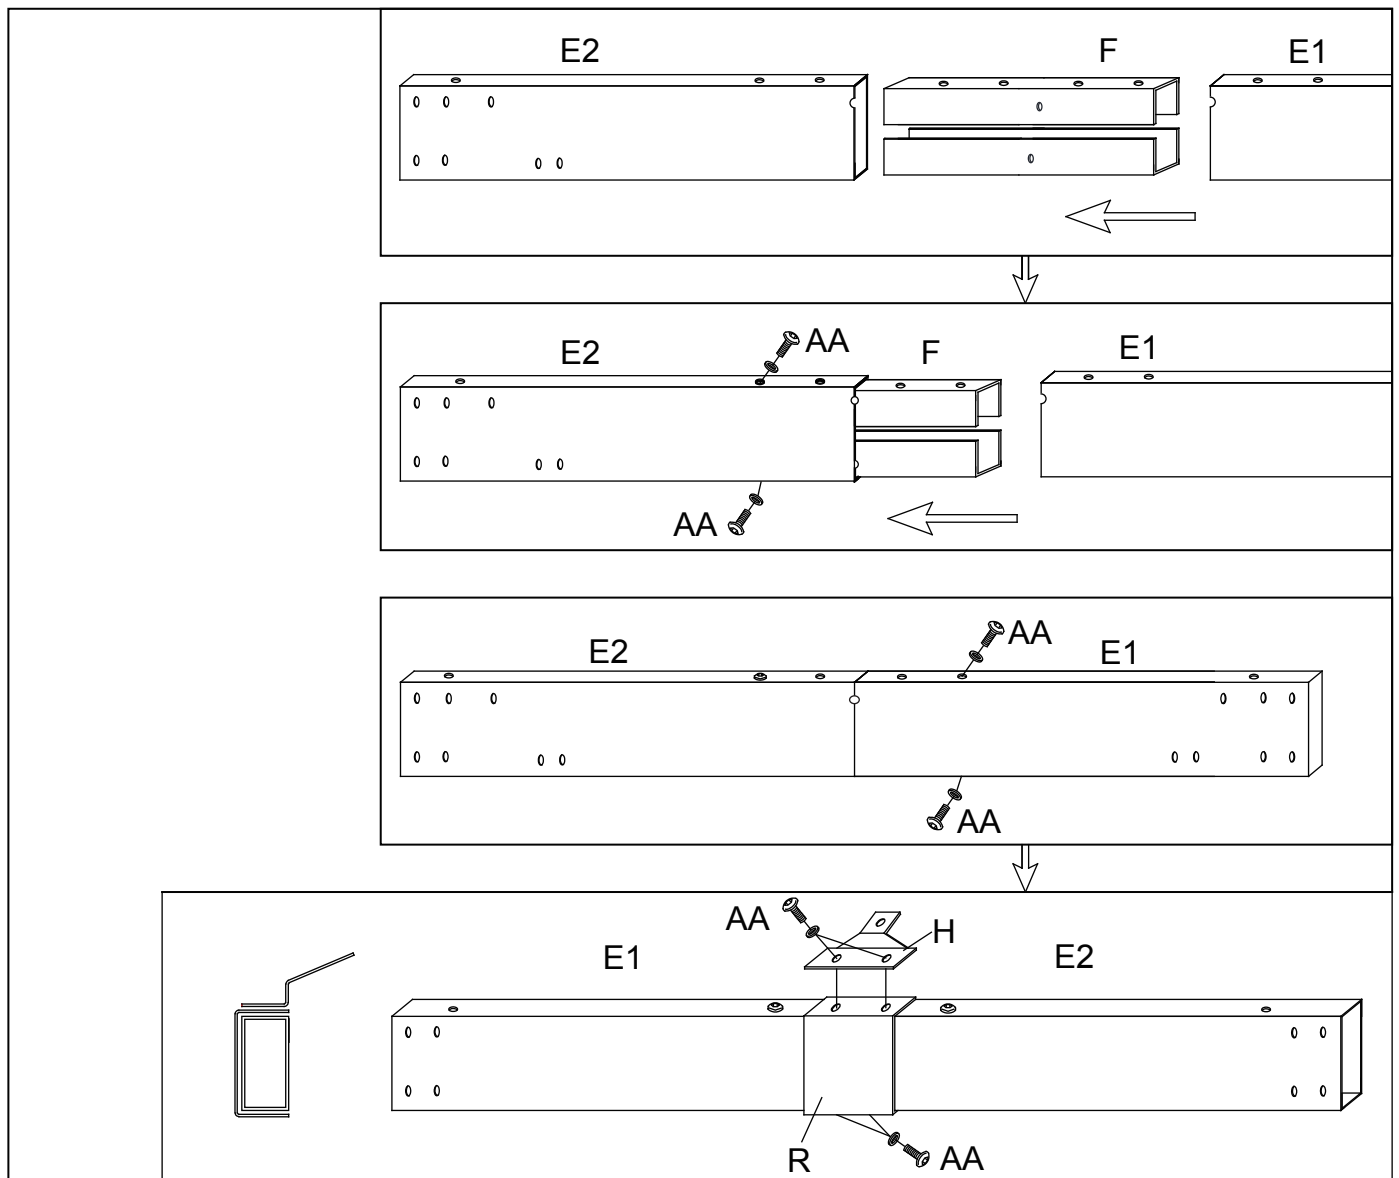

Fig.2
2. Place the Hook (Z) into the track of the Lintel (E1/E2). Insert Connector (F) to the Lintel (E1/E2), make sure the holes are aligned. Attach Left Lintel (E1) and Right Lintel (E2) to Connector (F) with Bolt (AA). At the same time, attach Connection Piece (H) to Lintel (E1/E2) with Bolt (AA). Attach the Lintel Cover (R) to Connector (F) with Bolt (AA). See Fig.2.